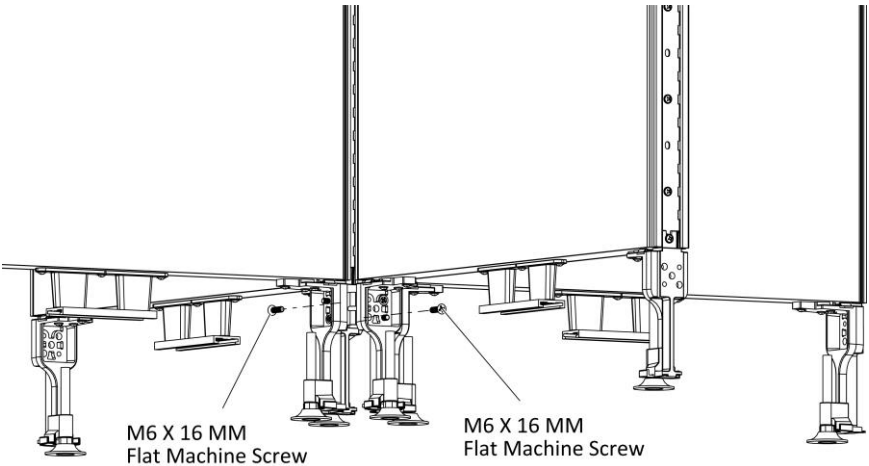

Figure 7
- Secure the base with two M6 X 16MM Flat Machine Screws, (Figure 7).